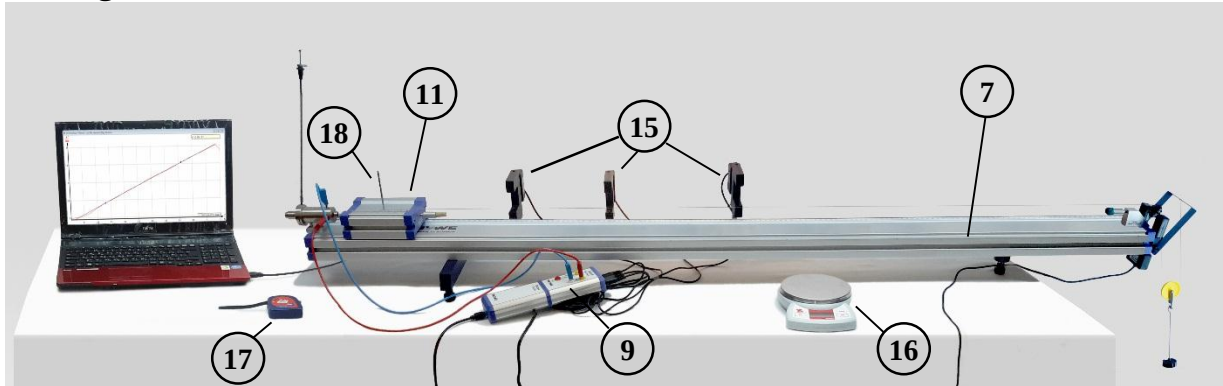
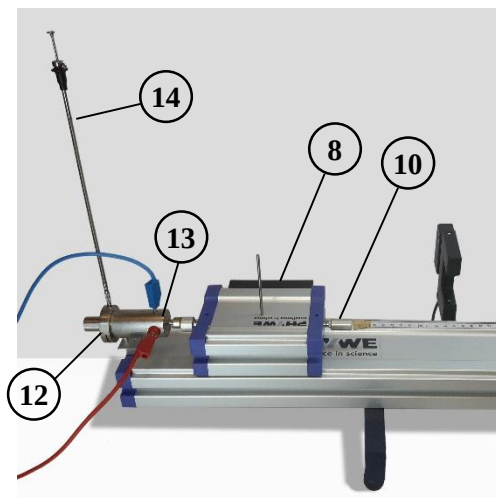
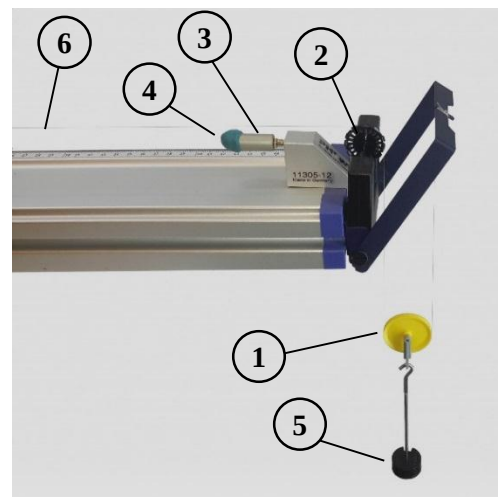

Figure 3.2: Experiment setup.
Figure 3.3: The Cart and the starter system.
Figure 3.4: The pulley and the wheel incremental encoder.
The setup main parts are shown in Figure 3.2, Figure 3.3 and Figure 3.4.
We will use the same setup as shown in Figure 3.2.
3.5.2 Task (2): Determination of the motion parameters (displacement, velocity and acceleration) as a function of time using Cobra4 Sensor- unit Timer/Counter by applying constant force.
- 1- Use the same setup as shown in Figure 3.2 above but connect the Cobra4 unit as shown in Figure 3.20. Connect only the wheel incremental encoder (2) to Cobra4 Sensor-unit Timer/Counter.